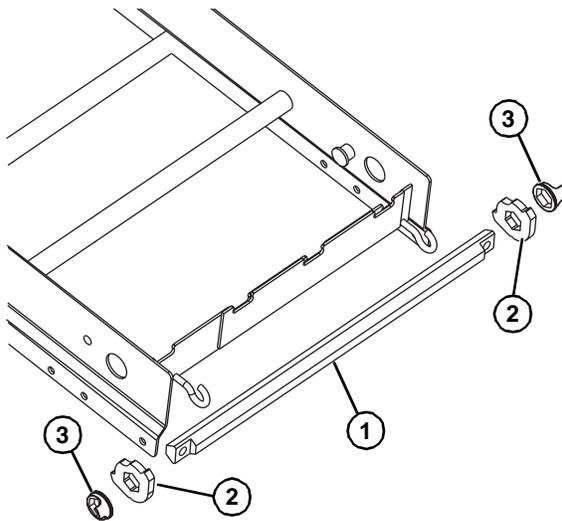

**Figure 13**
3. Insert the pull pins (**Figure 13, item 1**).